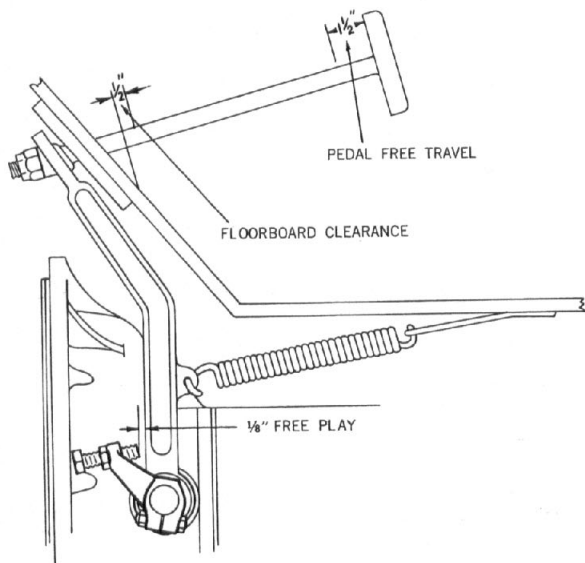

Fig. 38 - Adjusting Clutch Pedal Linkage.
(3) The proper clutch pedal "free travel" is approximately $1\frac{1}{2}$ ". The gradual reduction from this amount is a normal condition caused by facing wear.
(4) If inspection indicates clutch pedal "free travel" is less than $\frac{1}{2}$ ", immediate adjustment of the release sleeve should be made to restore the proper $1\frac{1}{2}$ ", "free travel," see Fig. 38. This $1\frac{1}{2}$ " of "free travel" normally results in $\frac{1}{8}$ " clearance between the release yoke and the bearing carrier wear pads or at the cross shaft adjustment.